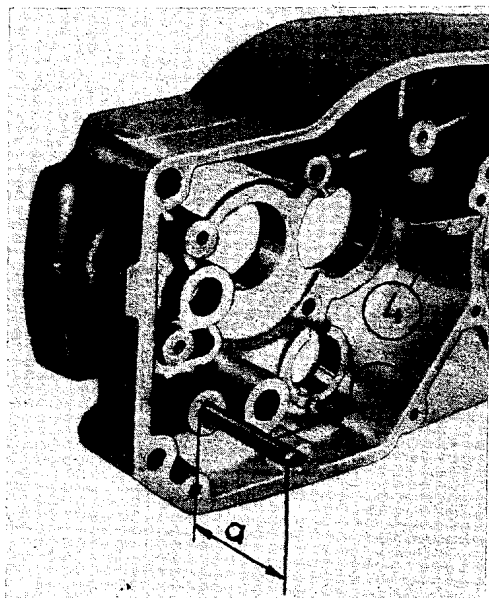

Fig. 57. Mounting the control stop and the oil guide plate
- Press the notched nail (1) for gear-shift detent spring into the left-hand casing half (clutch side);
- Press the notched pin (2) for fixing the position of the dynamo into the right-hand casing half;
- Press the fitting sleeve (3) and cylindrical pin (4) into the left-hand casing half at the clutch side;
- Press the cylindrical pin 8 x 80 (s), Fig. 57, for control stop, at a level of $a = 57_{-1}^{+1}$ mm measured from the sealing surface, into the cold casing;